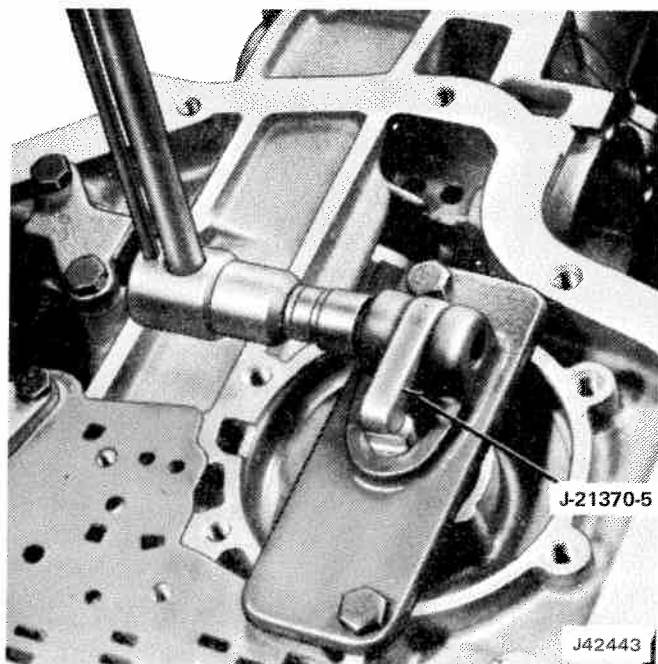

Fig. 7-13 Checking Band-Apply Pin of Rear Bands
- (1) Attach Fixtures J-21370-5 and J-21370-6 to transmission case by means of rear servo assembly attaching screws, as shown in fig. 7-13. These fixtures will be used to select a band-apply pin. One of three lengths of band-apply pin must be selected, to adjust operation of rear servo.